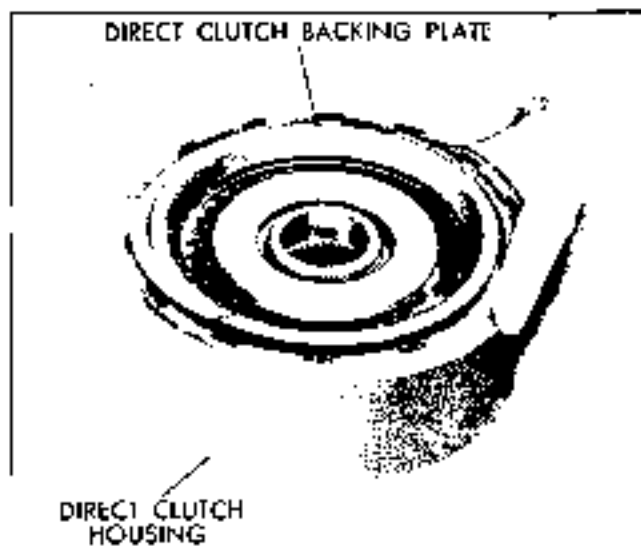

Fig. 7E-93 Removing Direct Clutch Backing Plate Snap Ring
12. Place forward clutch housing on pump delivery sleeve and air check clutch operation (Fig. 7E-85).